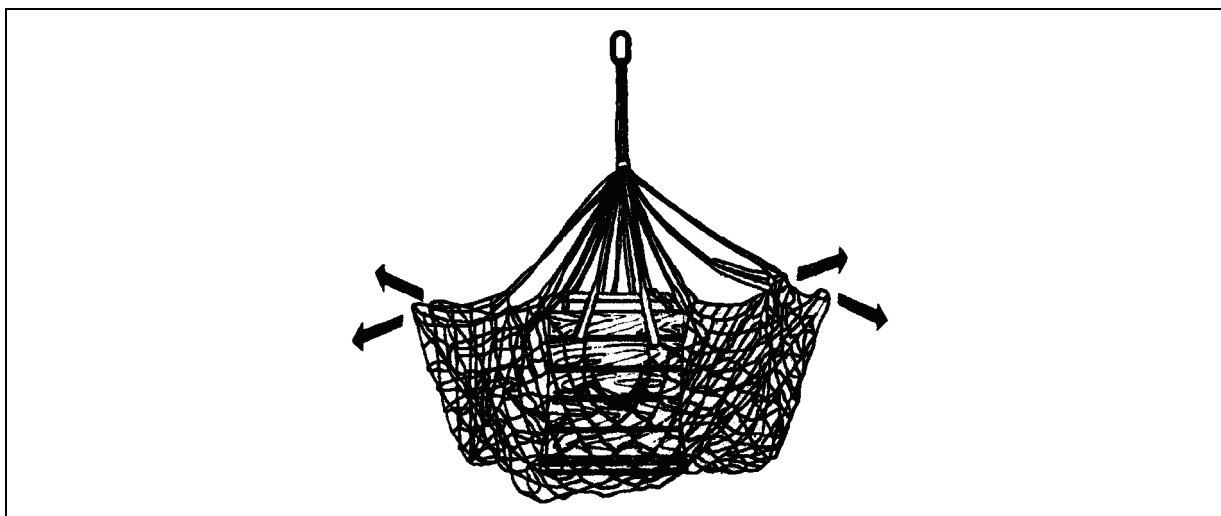

Figure 7-10. Net Pulled Outward from the Load
- Lift the sides of the net up while taping the legs so that the net does not get caught on the pallet or load protrusions (Figure 7-10).